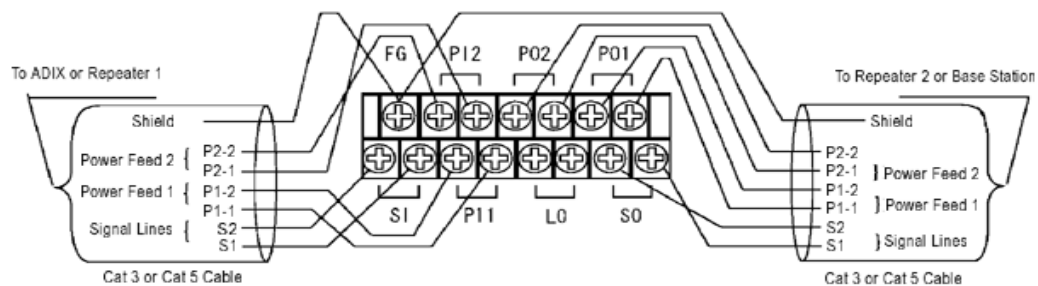

Figure 41. Communication Line Connection
6. If you are connecting a base station using two pair cables, and the ADIX APS power supply to is connected to a common external power supply, refer to Figure 41.